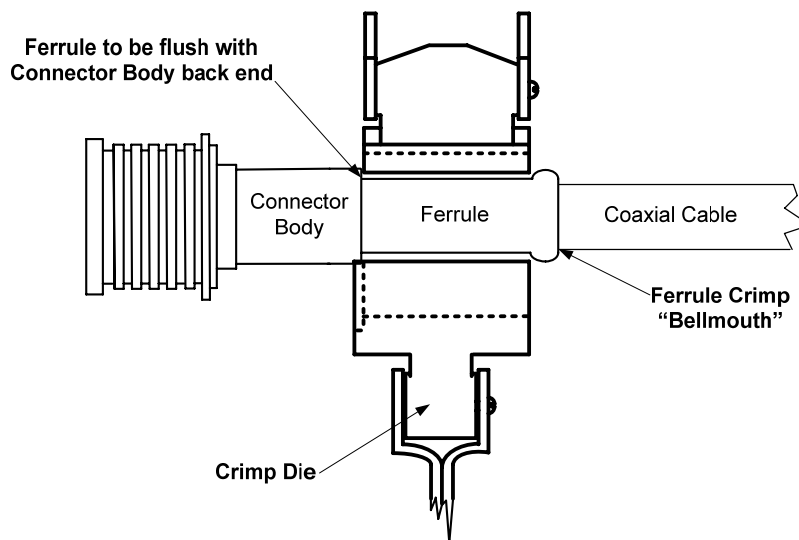

Figure 2-8. Ferrule and Crimp Die Positioning
5. Slide the crimp ferrule over the shielding braid to the back of the connector body. Position the crimp tool flush with the back of the connector body and crimp using Tyco tool 35940-1 and die assembly 220189-3, or Tyco tool 354940-1 and die assembly 91901-1, or Tyco tool 69478-1. The crimp tool should be positioned such that a "bellmouth" (Figure 2-8) is present in the crimp ferrule on the coaxial cable side of the crimp after crimping. Adjust tool crimp height as necessary to ensure that the diameter of the crimp ferrule measures .221 maximum after being crimped over the shielding braid to the back of the connector.